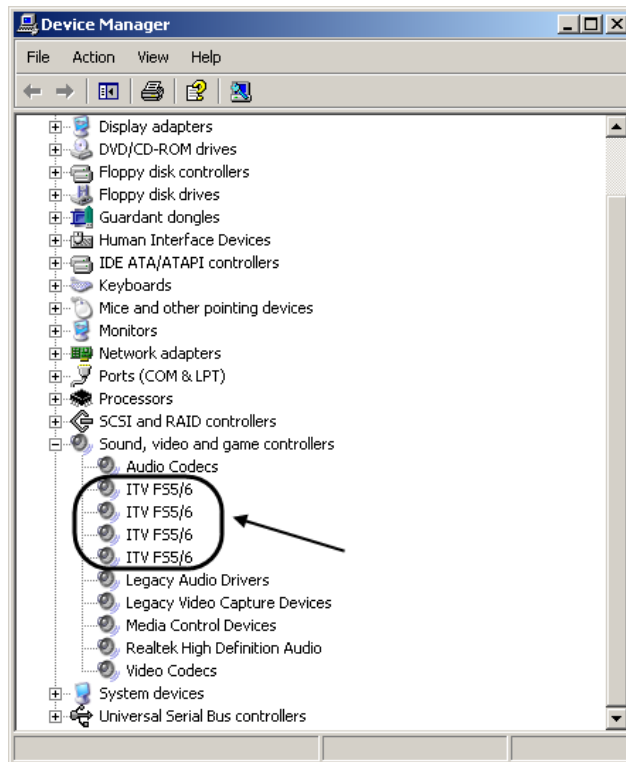

Figure 2.1-17 Example of Windows hardware tree in the Device Manager window if drivers for FS-6 video capture card are installed successfully
3. Go to **Sound, video and game controllers** in the Windows hardware tree and check if the displayed list of devices agrees with the types of installed video capture cards (Figure 2.1-17).